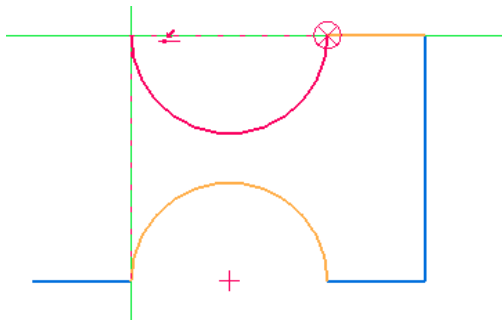

Figure 2-41 Horizontal and vertical dotted lines displayed to define the endpoint of the arc
15. Move the cursor once over the lower arc and then move it toward the left, in line with the upper right horizontal line from where this arc starts. On doing so, a horizontal dotted line originating from the upper right horizontal line is displayed. At the point where the cursor is vertically in line with the start point of the lower arc, a vertical dotted line appears from the start point of the lower arc, as shown in Figure 2-41.